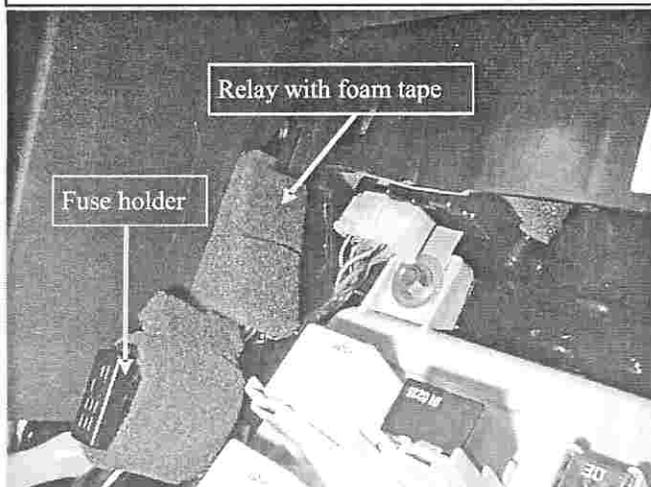

Fig 15. Relay and fuse holder tucked in behind rear of steering column should.
25. Tuck the relay and the fuse with the foam tape in behind the steering column lower should. Refer Fig 15.